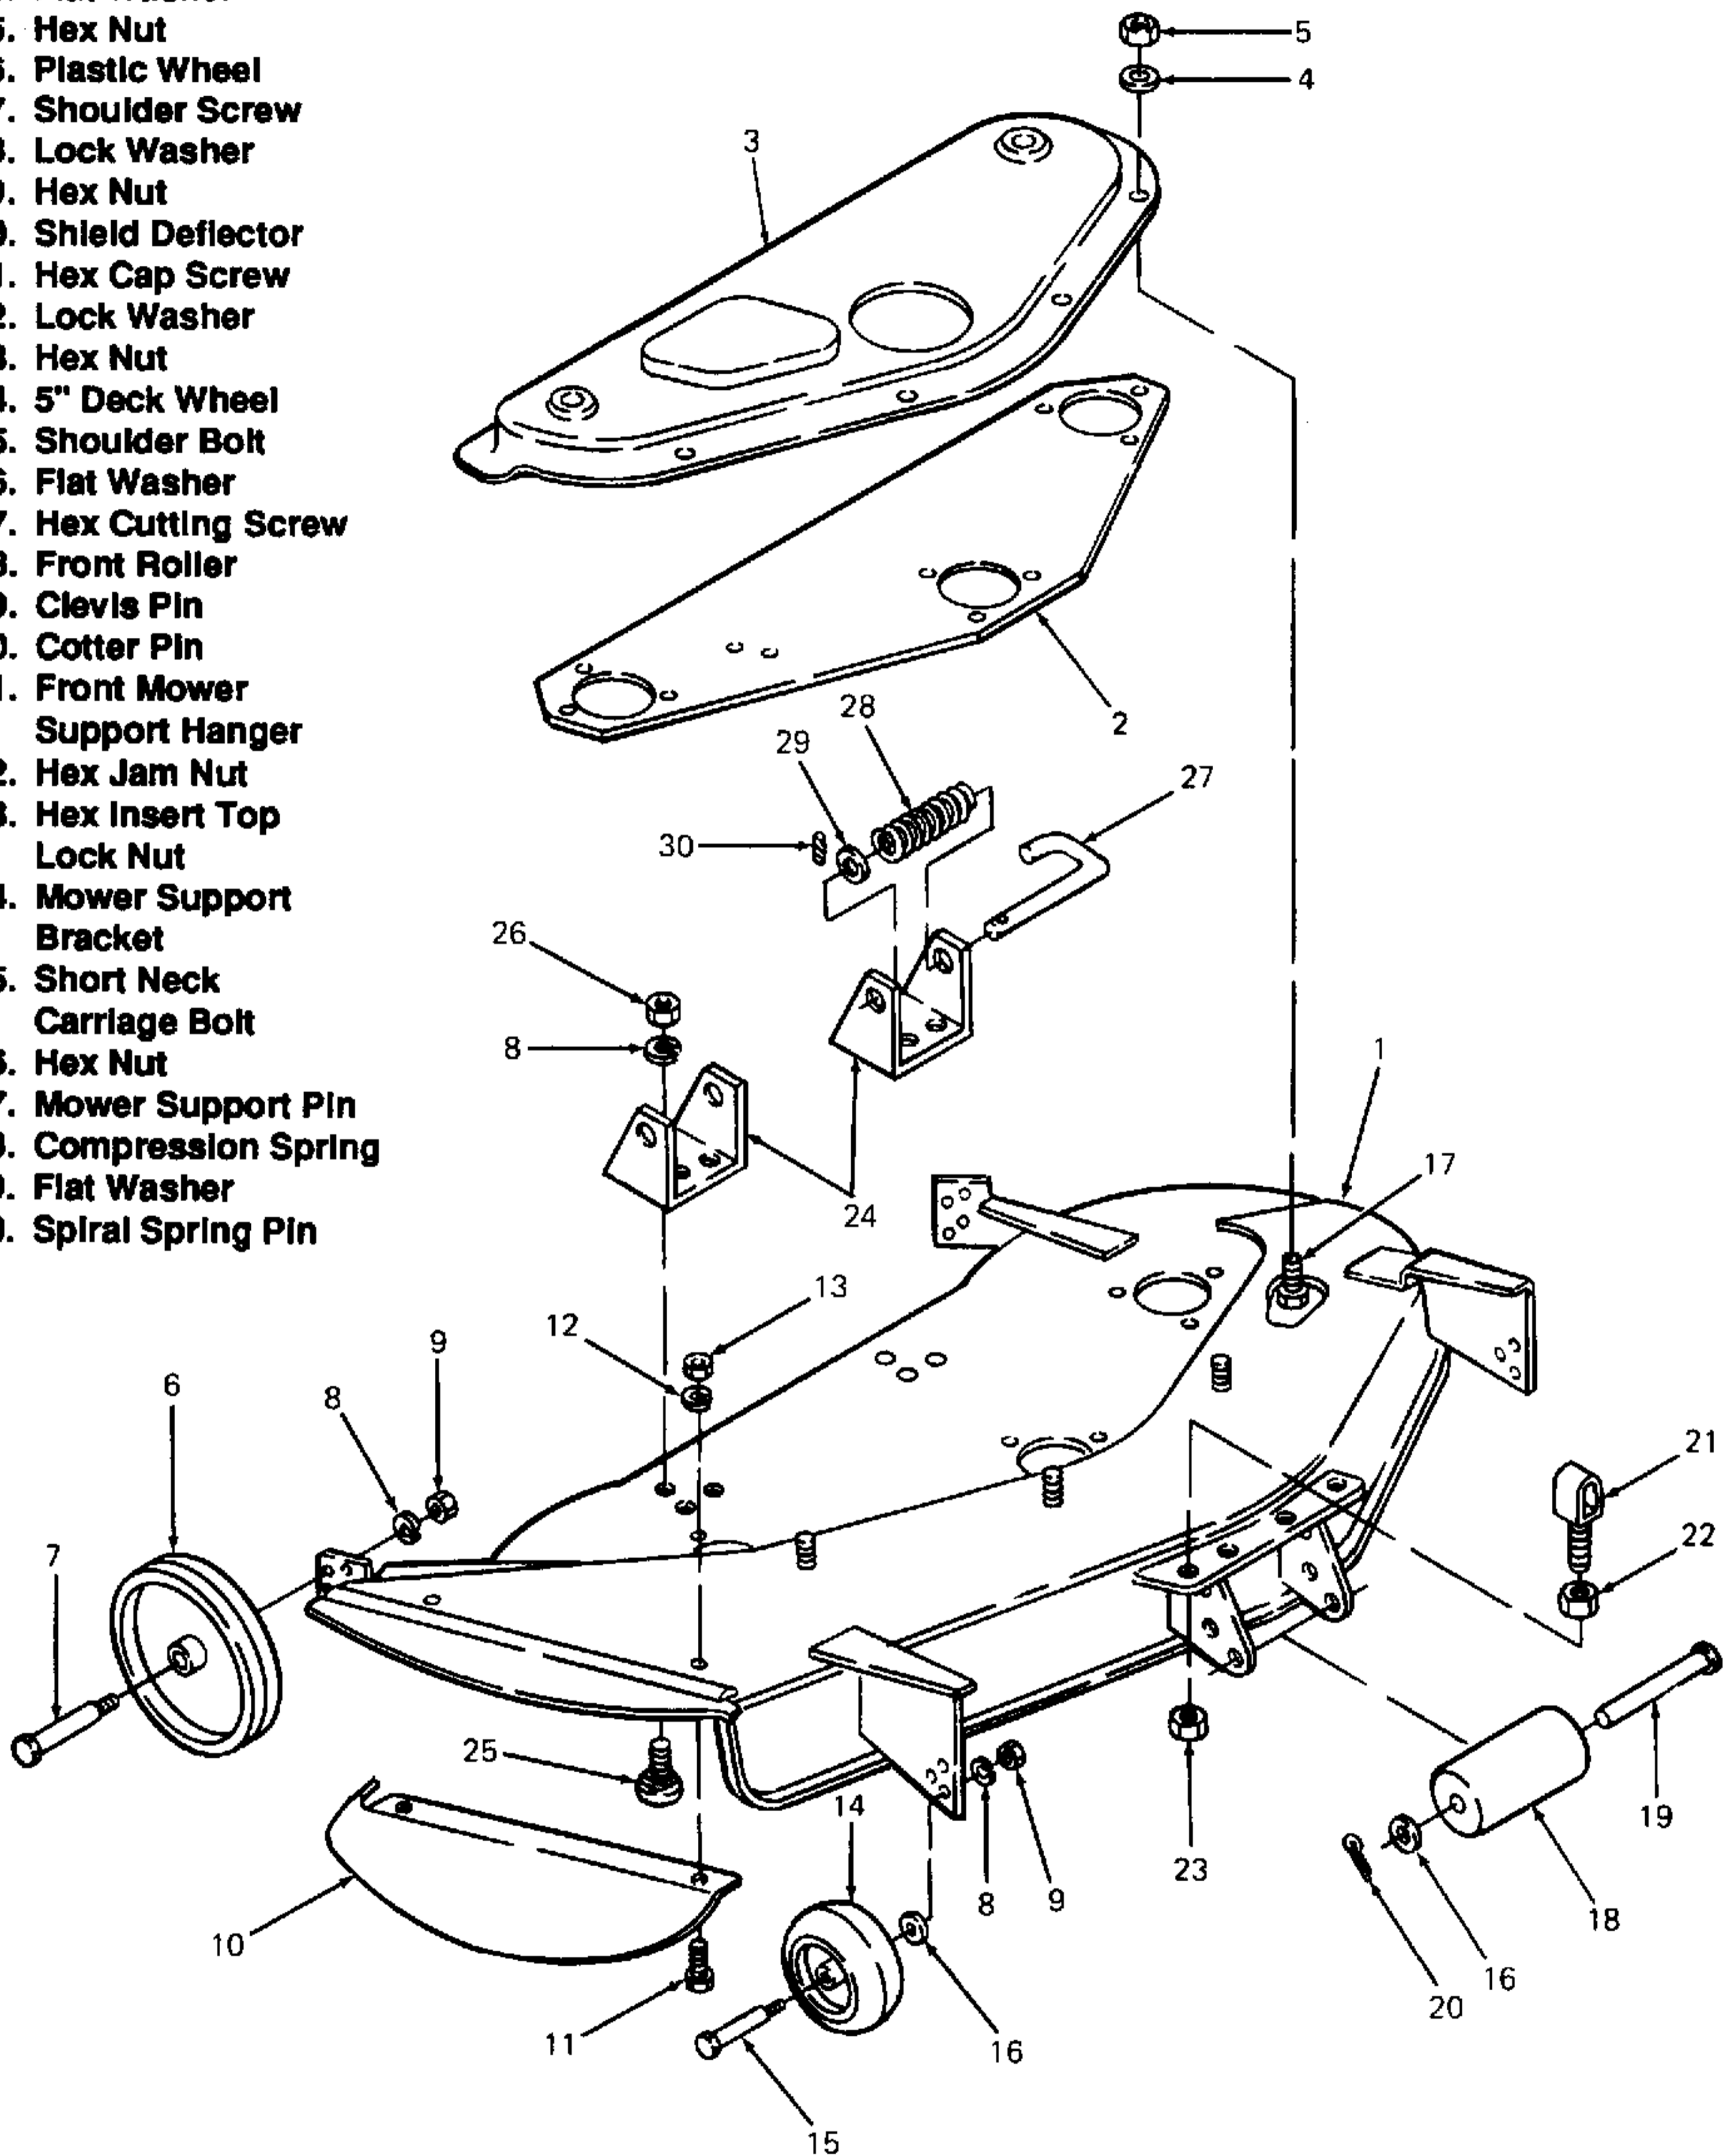
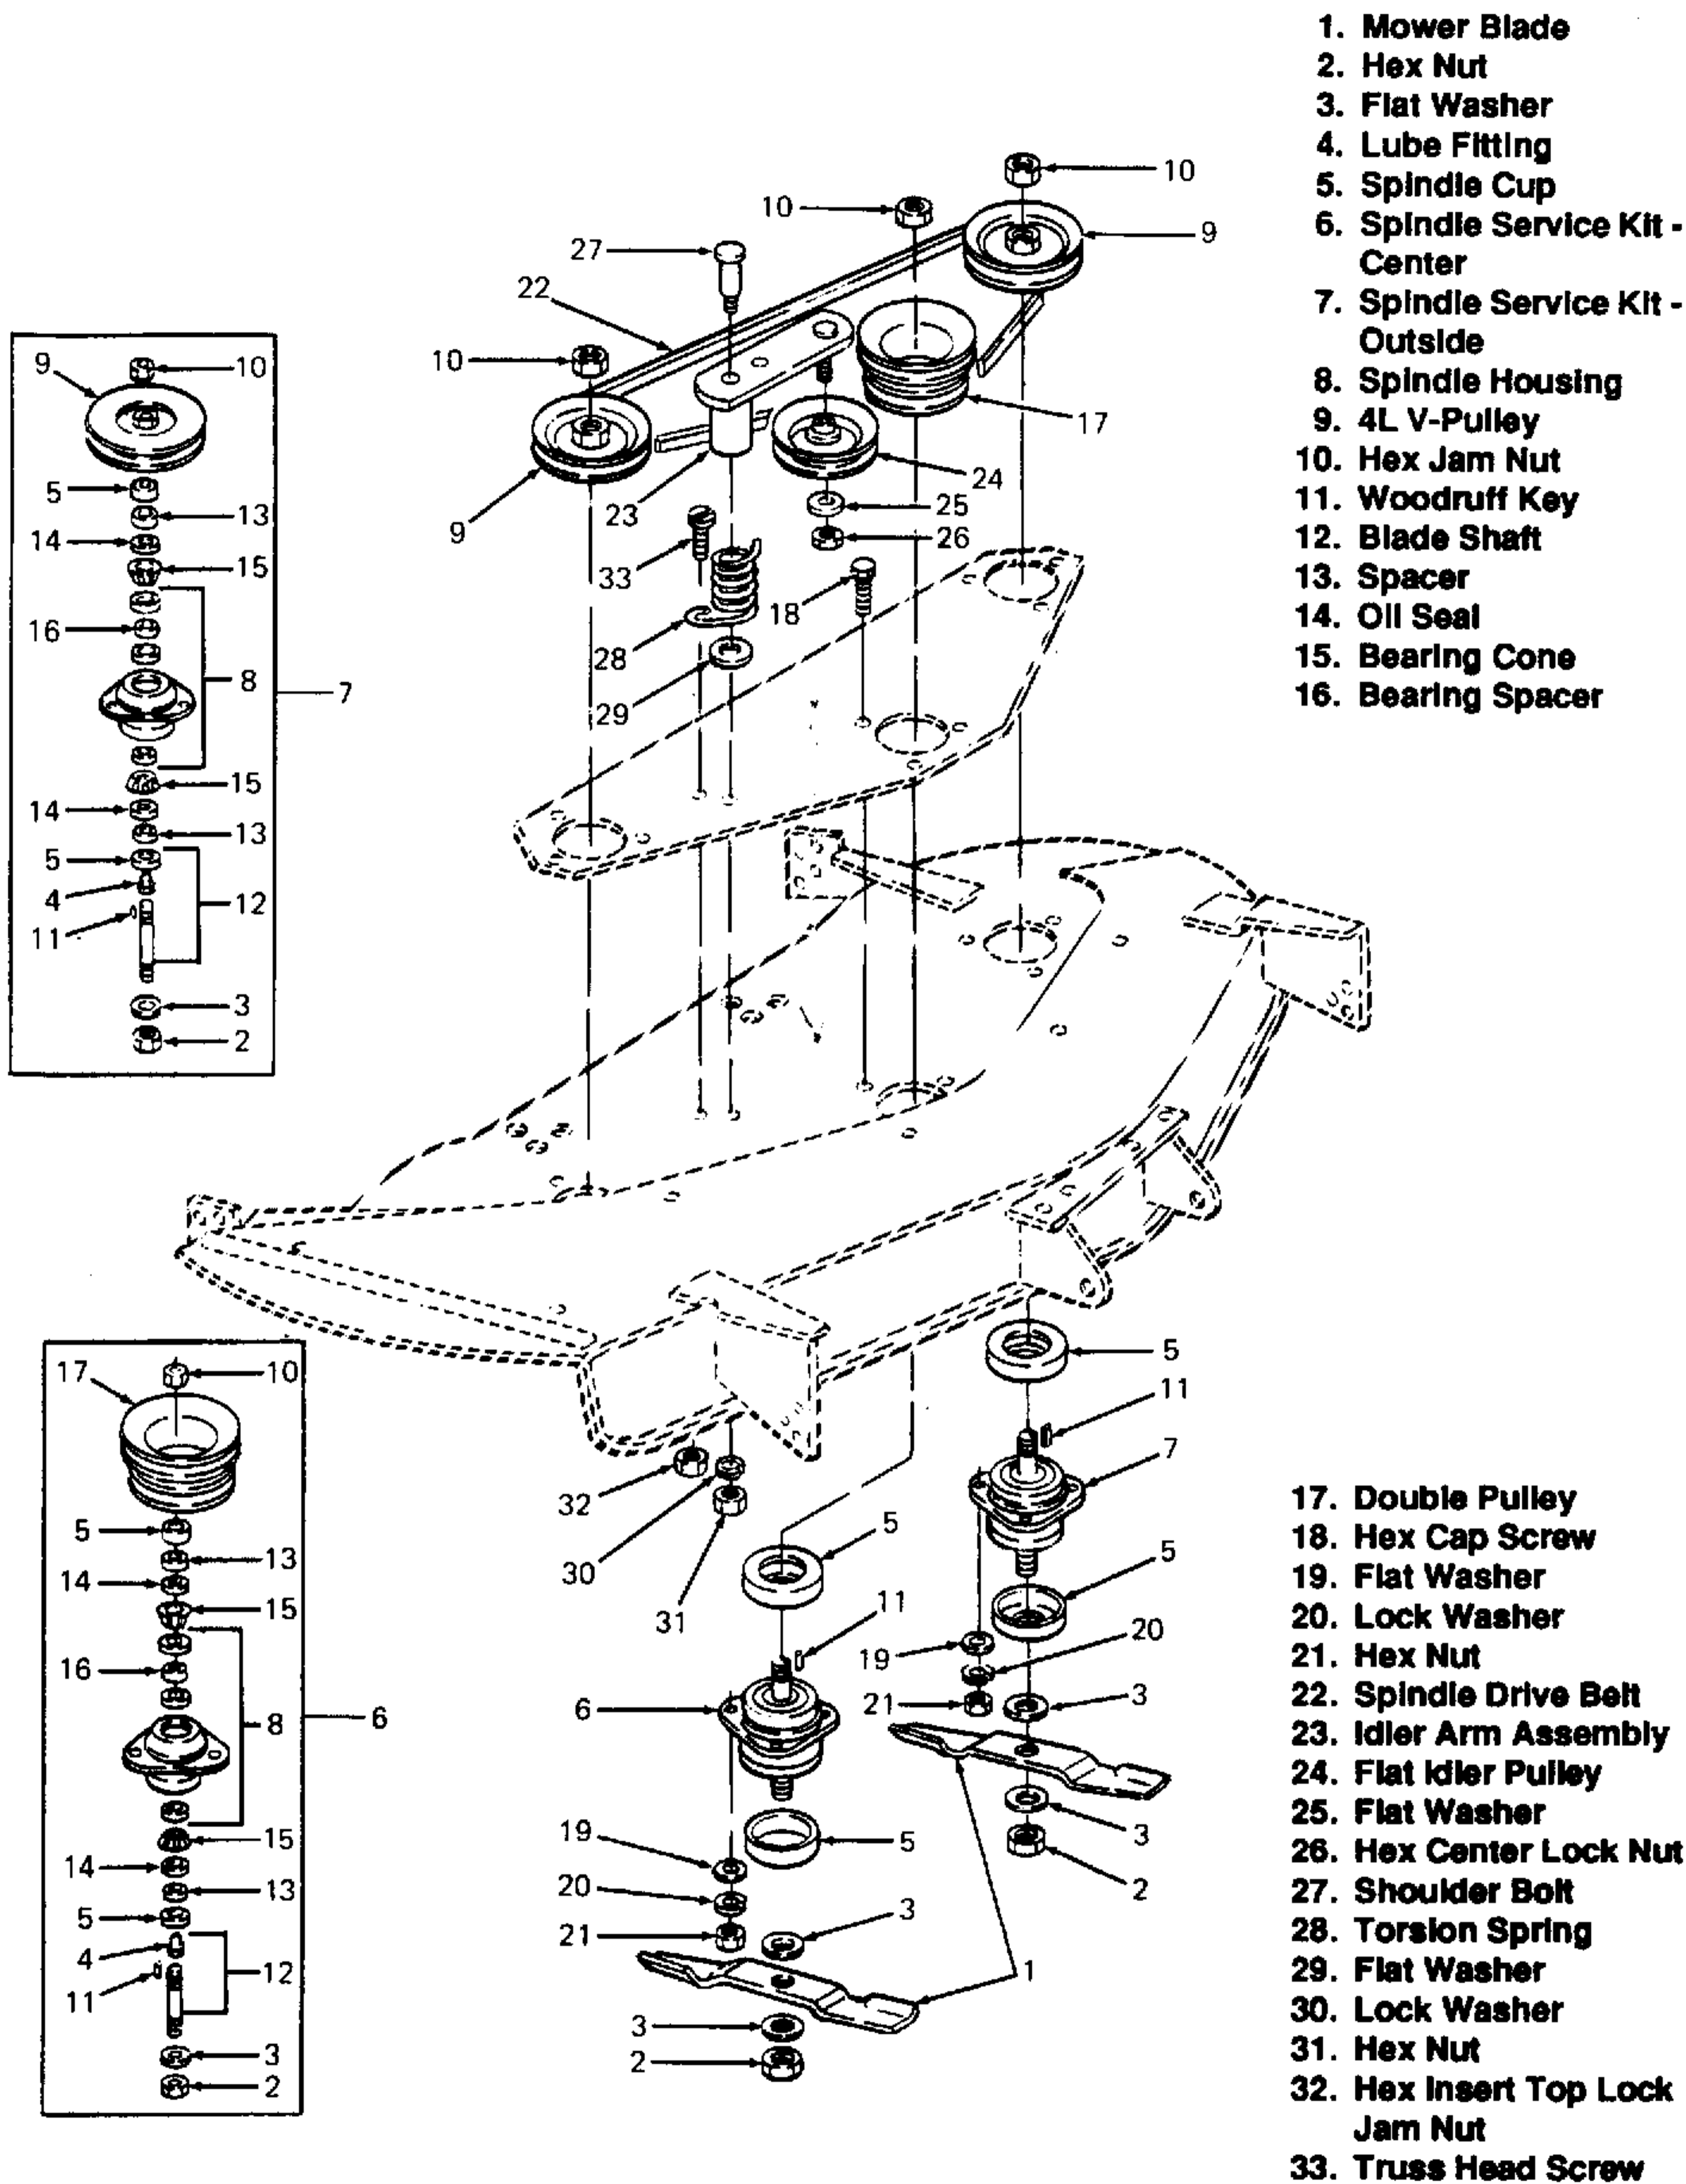

Figure 5-122. Wheels and Mounting Brackets (Model 190-358).
Figure 5-123. Blades and Spindles (Model 190-358).
5-73.3 Disassembly. Refer to Figure 5-122 and disassemble deck to level necessary to perform spindle repair and/or overhaul. Then, refer to Figure 5-123 and disassemble spindle assemblies (6 and 7) as follows:
1. Install bearing spacer (16, Figure 5-123) and bearing cones (15).
2. Install oil seals (14), spacers (13) and spindle cups (5).
3. Install spindle (6) in assembly and place key (11) in keyway.
4. Install drive pulleys (9 and 17) and secure with hex jam nuts (10). Torque nuts (10) to 50 to 60 ft-lbs.
5. Install each blade (1) as follows: Install flat washers (3), blade (1), flat washer (3) and hex nut (2). Torque nut (2) to 90 to 100 ft-lbs.
7. Complete remaining reassembly using Figure 5-122 as a guide.